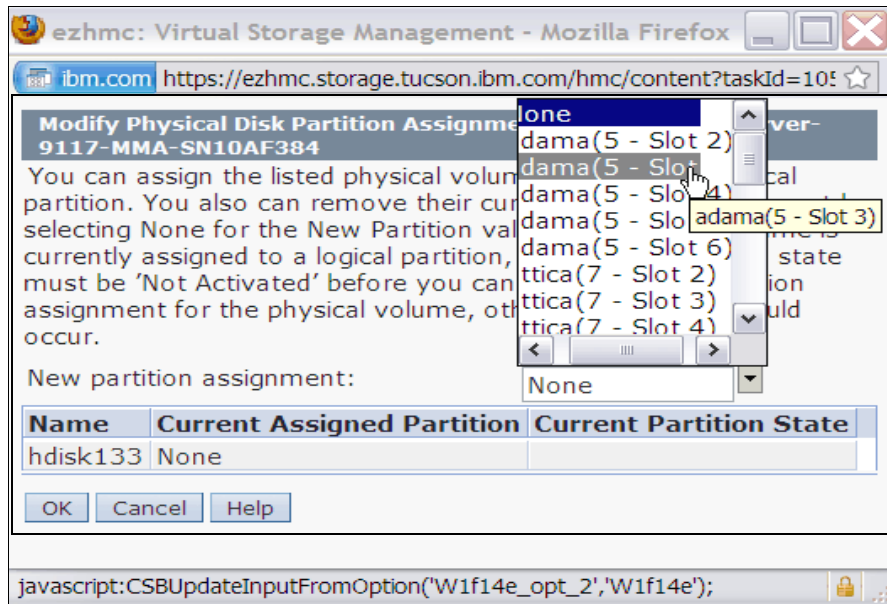

Figure 3-15 HMC: Selecting the partition to which to assign LUNs
- b. In the Modify Physical Disk Partition Assignments window (Figure 3-15), from the list, choose the IBM i client to which you want to assign the volumes.